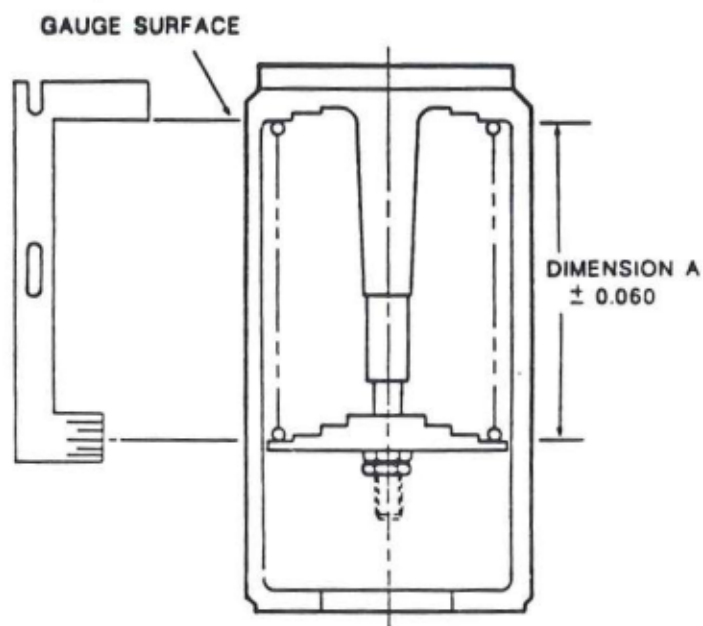

Figure 6-13. Location of Spring Height Gage for Pull Type Hydramotors
- 5). Turn the crank handle clockwise to position the cup against the spring retainer. Continue to turn the crank handle clockwise, compressing the spring and spring retainer until the shaft assembly extends through the spring retainer (708). Screw the jam nut (711) onto the end of the shaft.
- 7). Compress the spring(s) and adjust the jam nut (711) to position of spring retainer to dimension A (see Table 6-1 or Table 6-2 ( for pull type Hydramotors equipped with a manual override) and Figure 6-13)
- 11). Thread the stem adapter jam nut (711) and stem adapter (727) onto the shaft assembly.
(Refer to Dimension A Figure 6-13\*, and Spring Options, Figure 6-10)